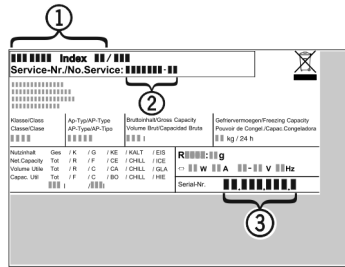

Fig. 8
- Read the appliance designation *Fig. 8 (1)*, service no. *Fig. 8 (2)* and serial no. *Fig. 8 (3)* from the rating plate. The rating plate is located inside the appliance on the left-hand side.
- Notify a qualified service provider, specifying the fault, appliance designation *Fig. 8 (1)*, service no. *Fig. 8 (2)* and serial *Fig. 8 (3)* no.